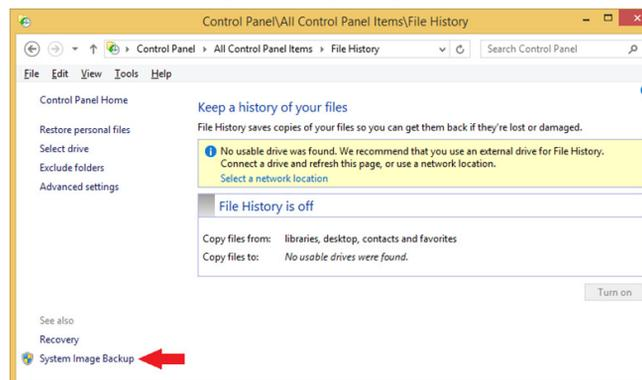

Figure 4 Windows 8.1 System Image Backup
- b Click **System Image Backup** (Figure 4).